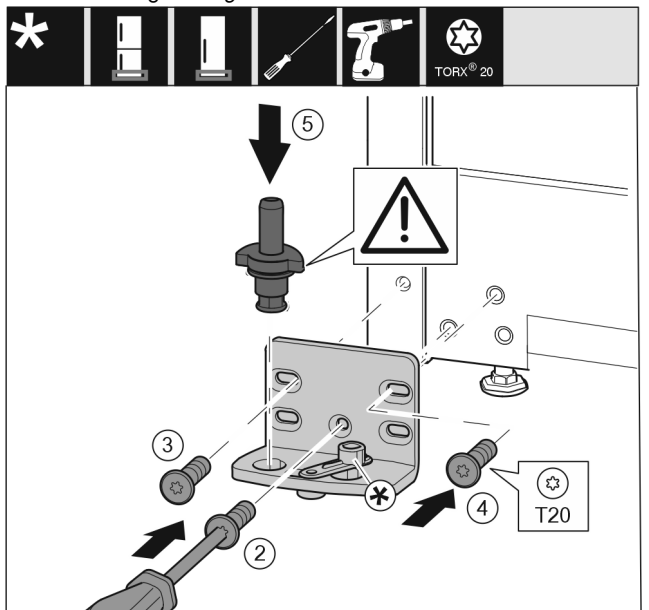

Fig. 19
- ▶ Place the bearing bracket on the other side and screw it in using the T20 screwdriver. Start with screw 2 at the bottom in the middle. *Fig. 19 (2)*
- ▶ Screw in screws 3 and 4. *Fig. 19 (3,4)*
- ▶ Insert the bearing pin completely. Make sure that the latching lug is pointing to the rear. *Fig. 19 (5)*